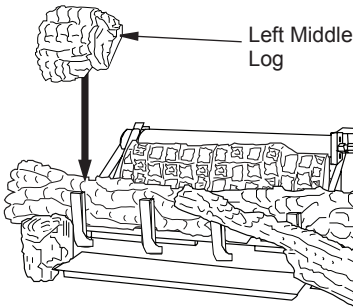

Figure 42 - Installing Left Middle Log
6. The left middle log has a groove on the bottom to sit on the chassis and has to sit on the tab on the back of the left front log as shown in Figure 42.